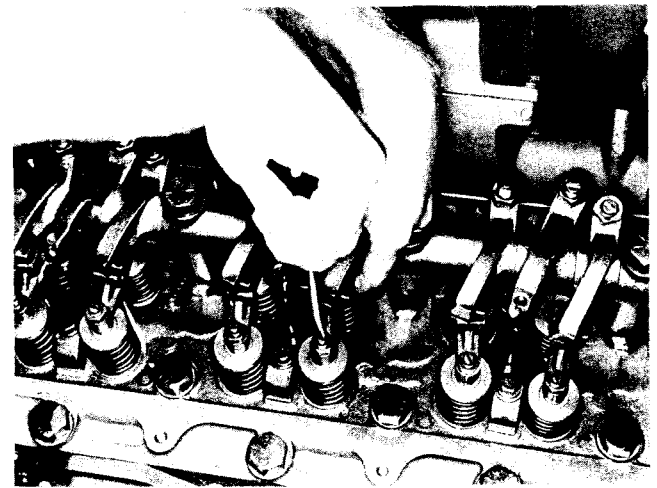

Fig. 2-41 (V51490) Adjusting crossheads
3. Turn down crosshead adjusting screw until it touches valve stem, Fig. 2-41.